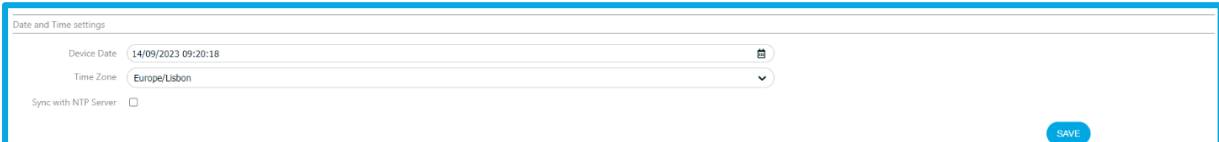
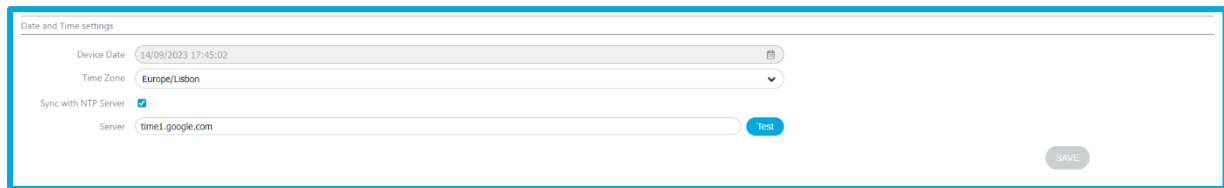

Figure 132 – Section to configure date and time with NTP disabled.
Figure 133 – Section to configure date and time with NTP enabled.
2. **Date and Time Settings:** set the device date and time, manually or based on the NTP protocol. When syncing with the NTP server, you can edit the server field, as shown in Figure 132 e Figure 133, and the user can test if the entered server is correct before saving the changes.